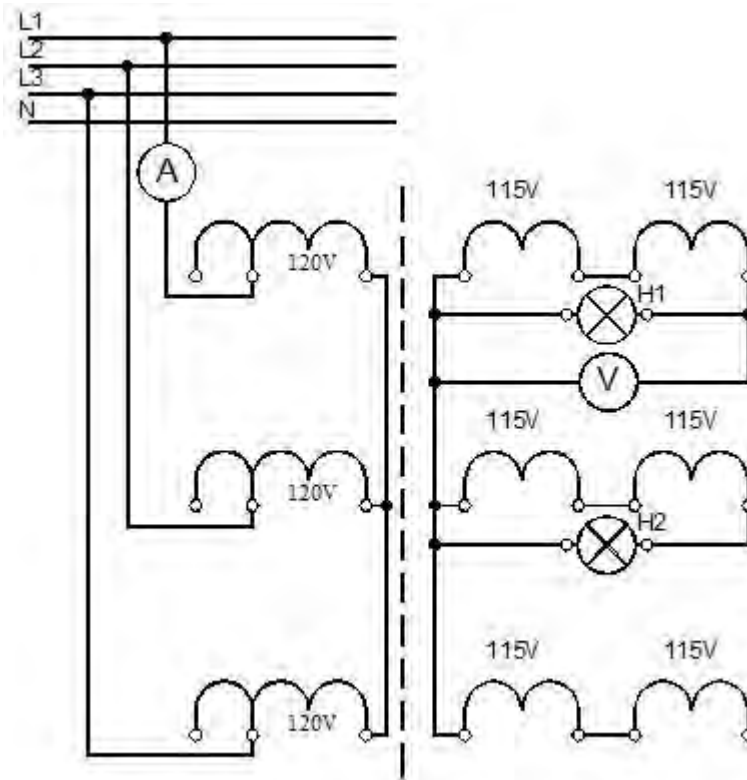

Figure 6:
1. Wire up the circuit in accordance with the set-up and wiring diagram of Figure 6.